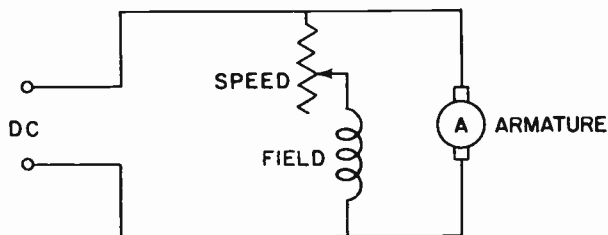

FIG. 5-6. A SHUNT-WOUND GENERATOR.
**3 SELF-EXCITED GENERATORS.** The elementary generators described in the preceding paragraphs were "separately excited". In the self-excited generators, the armature supplies current to the field coils. Fig. 5-6 shows a self-excited generator. It is called a shunt-wound generator because the field coils are parallel to (in "shunt" with) the armature and the load.